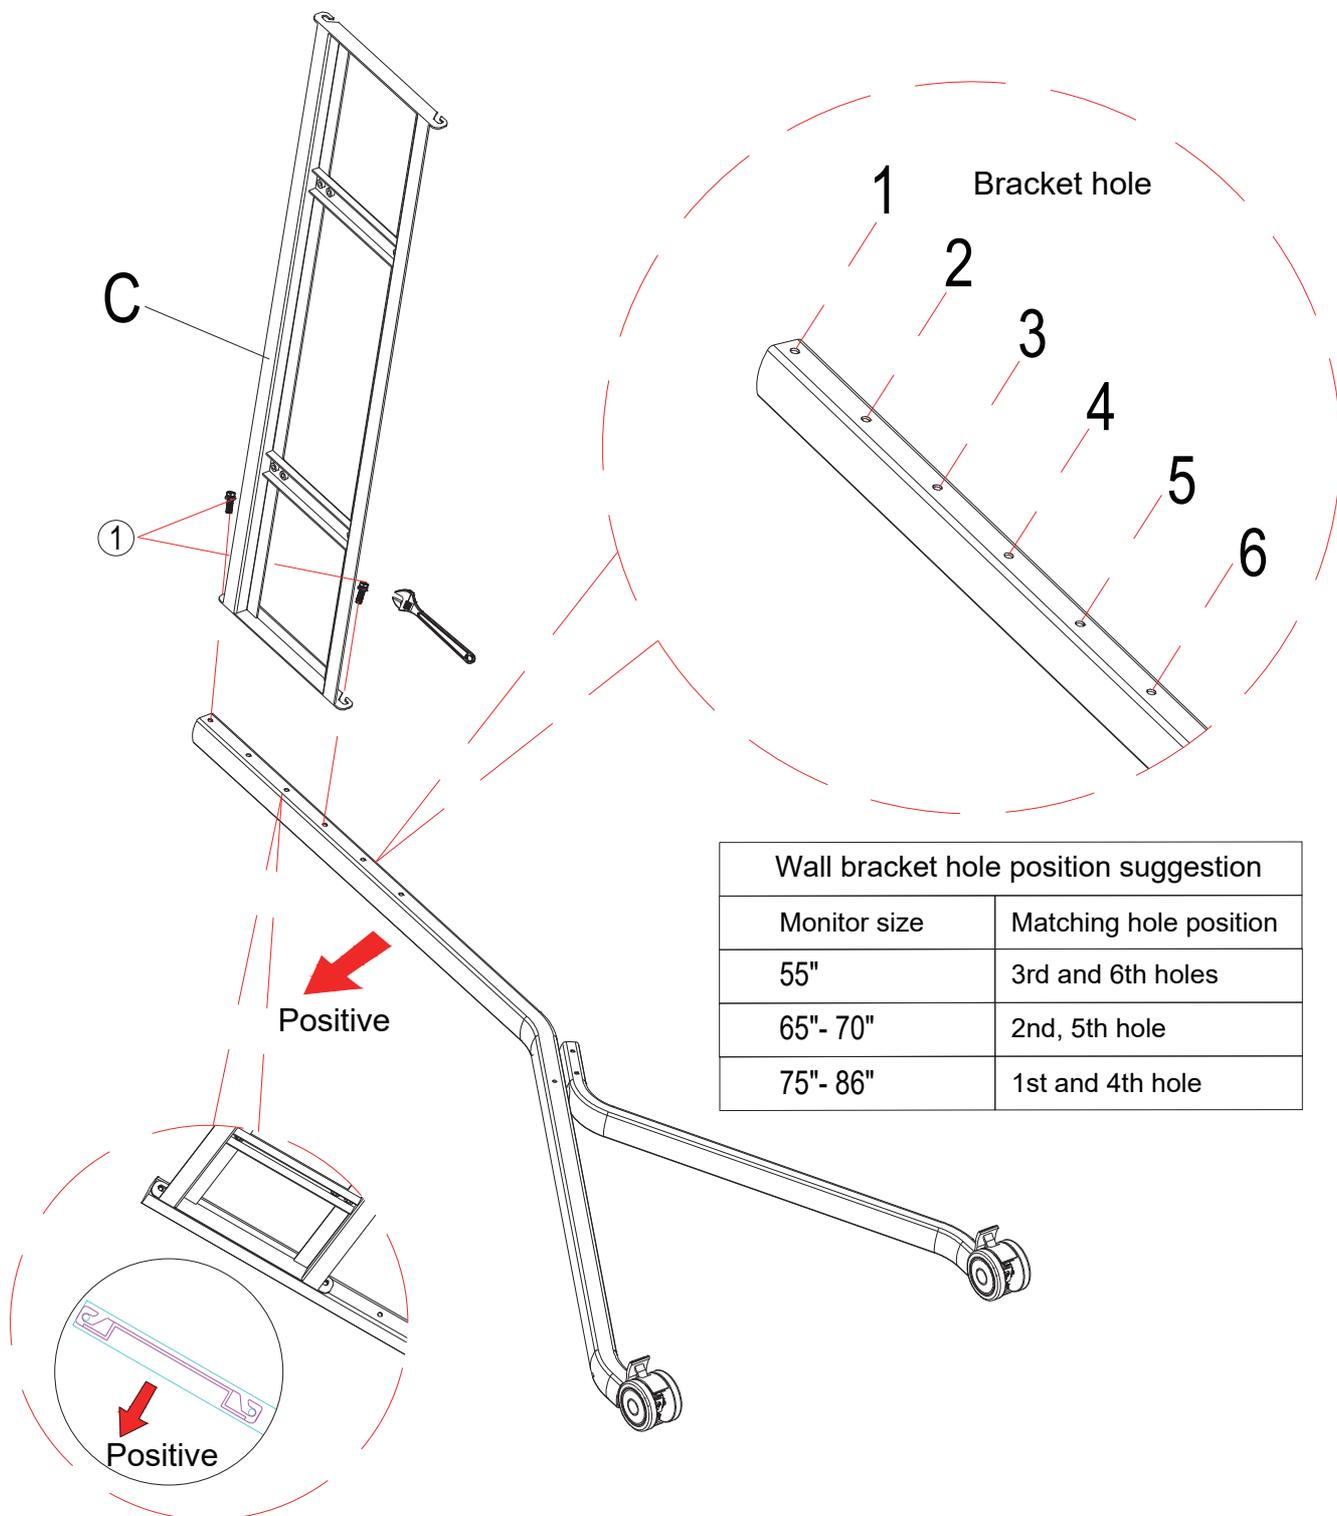

Figure 2
Step 2: Attach the wall bracket to the end leg (Figure 2).